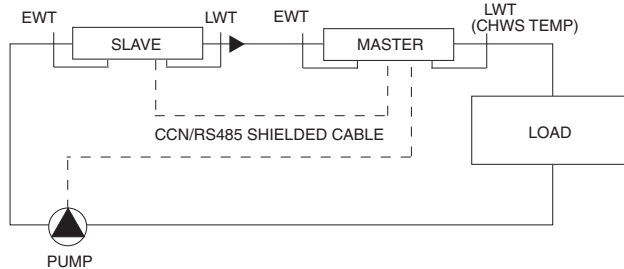

**Fig. 28 — Typical Series Master/Slave Chillers Dedicated Primary Pumping, Constant Flow, Leaving Water Control**
**DUAL CHILLER PUMP CONTROL FOR SERIES CHILLER APPLICATIONS** — Pump control for series chiller applications is controlled by the master chiller only. The control of the slave chiller is directed through commands emitted by the master chiller. The slave chiller has no action in master/slave operations. The slave chiller only verifies that CCN communication with the master chiller is present. See the Dual Chiller Sequence of Operation section on page 51. Figure 28 shows a typical pump arrangement for dual chiller series applications.